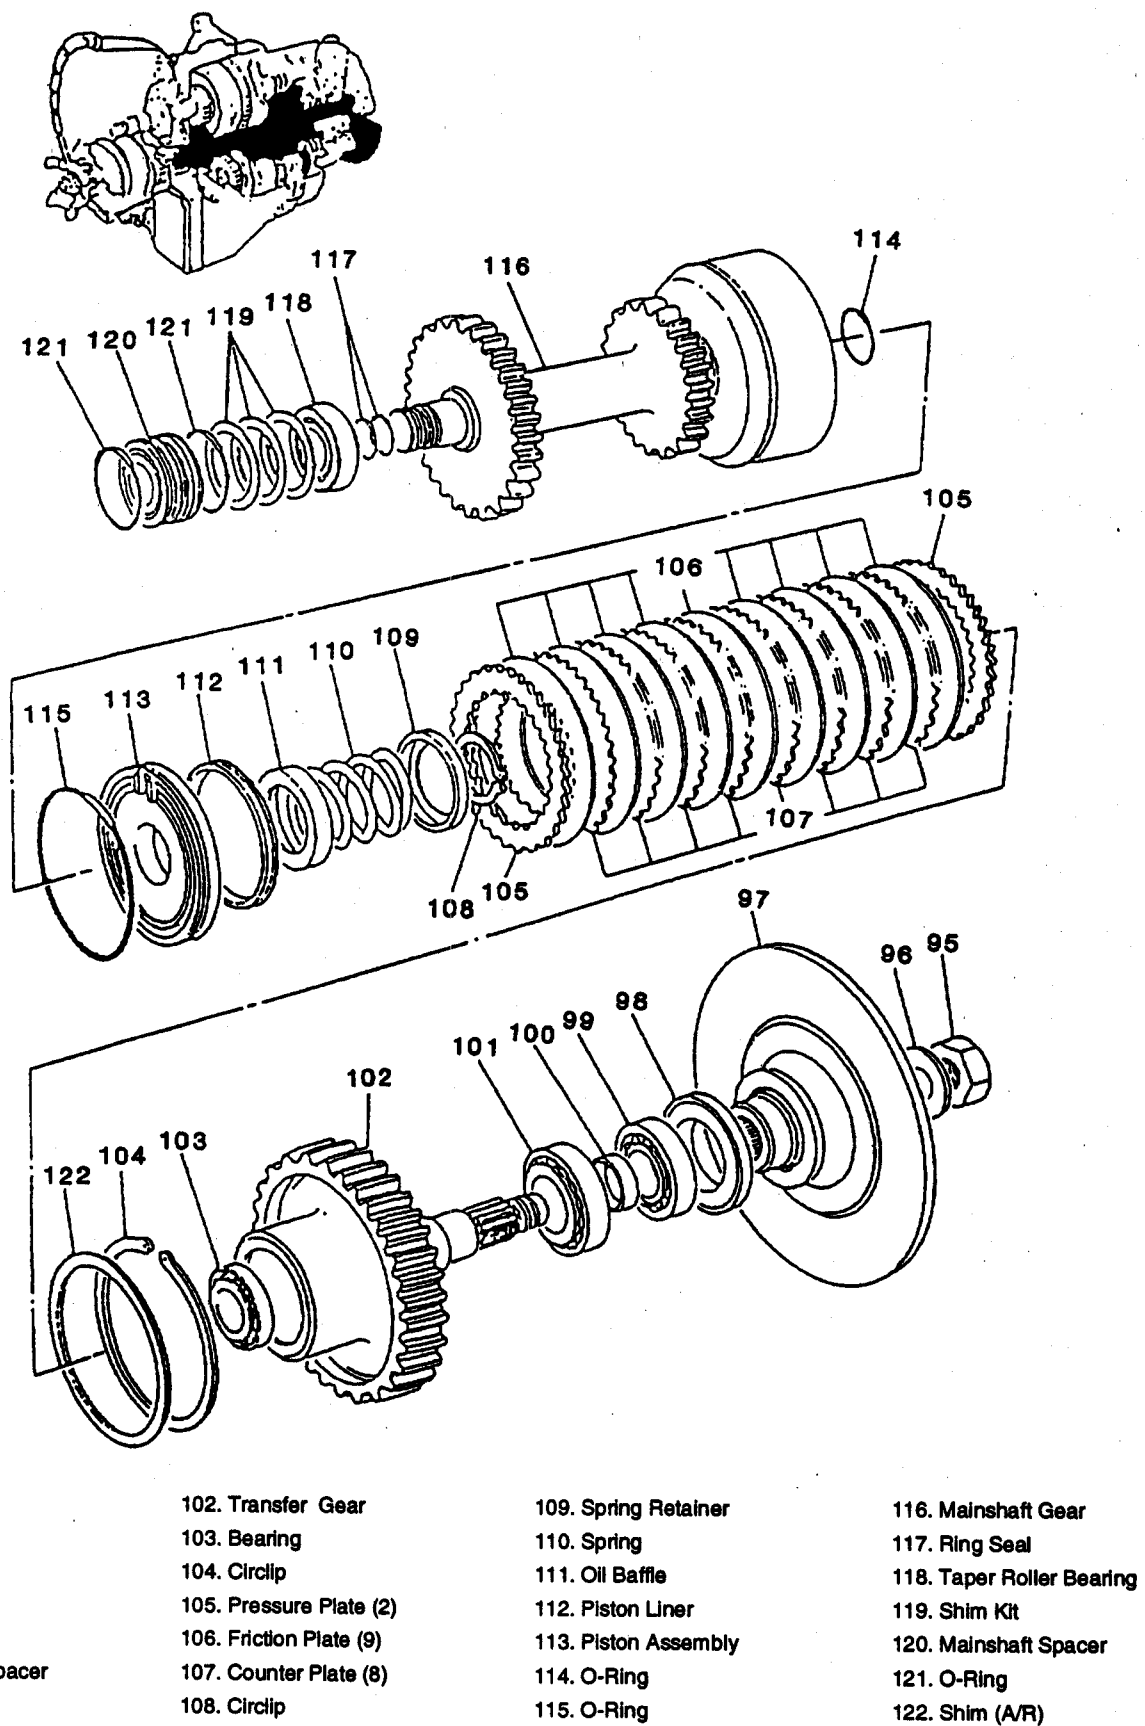

Figure 4. Transmission - Mainshaft
20. Pry out oil seal (98, Figure 4) from the rear casing. Remove outer taper bearing (99). Remove and discard collapsible spacer (100).
21. Using a suitable puller, remove output shaft inner bearing (101).